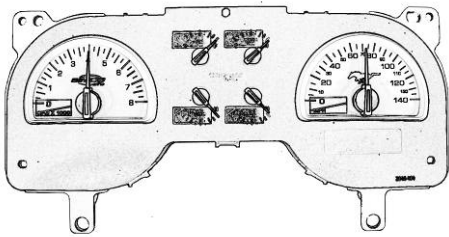

Figure 10
- B. Lightly set each of the pointers hubs onto the gauge shafts that are in the middle of the gauge centers while aligning the tip of the Pointer with the “**Installation Point Tickmark Locations**” that are listed below in chart. (See Figure 10 & 11). Do Not push them down yet. It is also not crucial at this point to be exact with these placements: